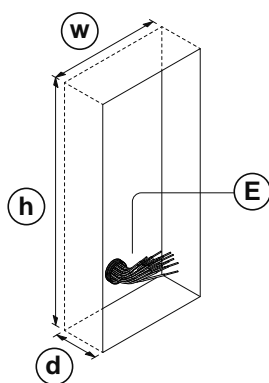

Fig. 47
2. Using the flush box (C) and the hole dimensions (**w=120mm x h=263.2mm x d=46mm**), as shown in **Fig.47**, use appropriate tools to cut out the recommended hole size in the wall (where required it may be necessary to wear the appropriate clothing, e.g. protective gloves and eye protection, when doing this). Remember to allow room for the connecting cables (E) (**Fig.47**);